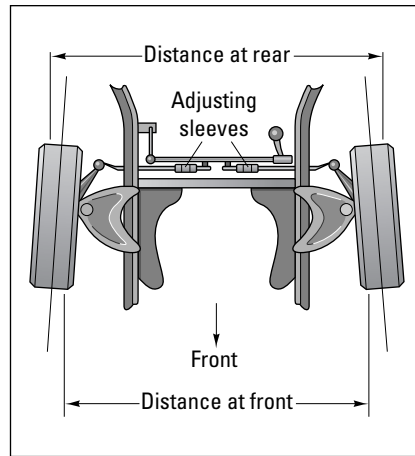

Figure 17-7: Toe-in.
- ✔ **Toe-in** and **toe-out:** Involve placing your tires so that they're properly positioned parallel to the frame when driving down the road. Some cars call for a little *toe-in* (tires pointing inward, as in Figure 17-7), whereas others are set with a little *toe-out* (tires pointing outward). The result should be a nice, straight